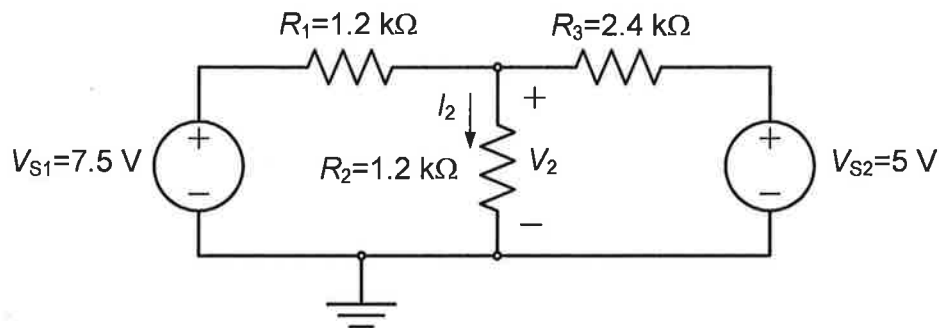

Figure 1. A resistive circuit excited by two dc voltage sources.
**Pre-lab Assignment 1.a:** For the circuit shown in Fig. 1, calculate the voltage  $V_2$  across the resistor  $R_2$  using the superposition principle. Provide your work step by step and box your answers.
**Pre-lab Assignment 1.b:** For the circuit shown in Fig. 1, reverse the polarity of the 5 V dc voltage source and redo pre-lab assignment 1.1. (Hint: You can use the results of Pre-lab 1.a.) Box your answers.
**Lab Experiment 1.a:** Construct the resistive circuit shown in Fig. 1. Using the *LCR* meter, measure and record the actual values of the resistors  $R_1$ ,  $R_2$ , and  $R_3$  used in your circuit. To verify the superposition principle, measure and record the voltage  $V_2$  for three cases (record your measurements in Table 1 form as provided below):
Table 1. Measured  $V_2$  values in the circuit shown in Figure 1.
Table 2. Measured  $V_2$  values in the circuit shown in Figure 1 where the polarity of the 5 V voltage source is reversed.